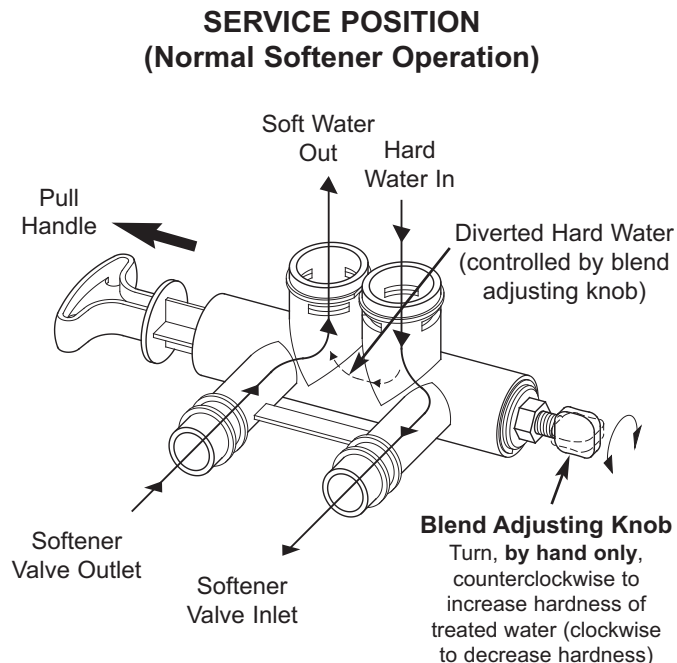

FIG. 55
The bypass blending valve works as a typical push-pull bypass valve, but has the added ability to finely adjust hardness of the treated water leaving the water softener. If slightly harder water is desired than is normally output by the water softener, this bypass blending valve can divert a small stream of hard water before it enters the water softener and blend it with the exiting softened water. The amount of water diverted is controlled by turning a blend adjusting knob on the end cap of the valve stem (See Figure 55).
1. When the bypass valve is in service position (normal softener operation), with handle pulled all the way out (See Figure 55), **increase hardness** of treated water by turning the blend adjusting knob **counterclockwise** up to 6 turns from the fully closed position. Before turning the knob, unlock it, if necessary, by turning the hex nut counterclockwise. While adjusting the knob, hold the bypass valve handle to prevent the stem from rotating.